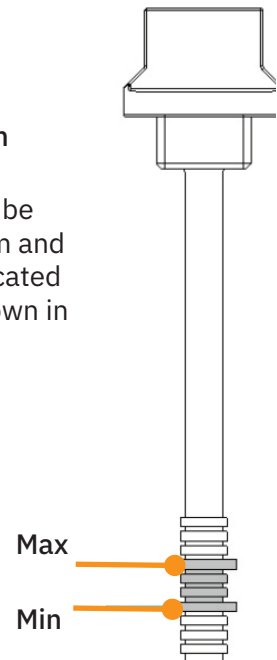

Figure 3
3. Gradually fill the buffer with oil until the oil level is visible between the minimum and maximum levels on the dipstick (indicated on figure 3)
6. Remove dipstick and inspect level. The oil level needs to be between the minimum and maximum marks indicated on the dipstick as shown in figure 3.
The oil level needs to be between the Minimum and Maximum marks indicated on the dipstick as shown in figure 3
4. Remove dipstick and inspect level. The oil level needs to be between the minimum and maximum marks indicated on the dipstick as shown in figure 3.